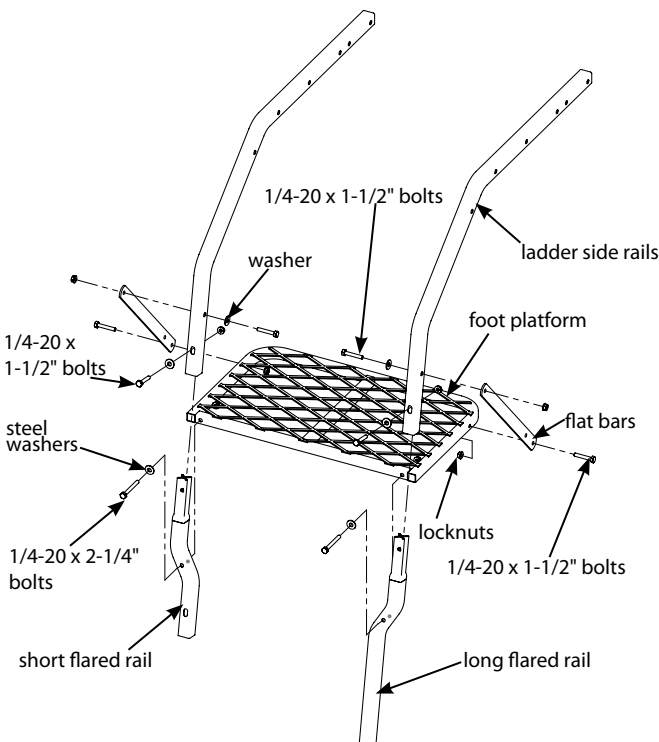

Figure 1
1. Attach the short flared rail (410031) and the long flared rail (410037) to the foot platform (410047) using (2) provided 1/4-20 x 2-1/4" bolts, locknuts and steel washers. **SEE FIGURE 1. DO NOT tighten all nut and bolt assemblies completely!**
NOTE: Mesh surface of foot platform should be on top. Make sure the short and long flared rails are orientated correctly per **FIGURE 1**.
2. Insert the two flared rails into the (2) ladder side rails (410030). Secure the ladder side rails to the flared rails using (2) provided 1/4-20 x 1-1/2" bolts, locknuts and steel washers. **SEE FIGURE 1.**
3. Attach the (2) foot platform flat bars (AL7) to the foot platform and the ladder side rails using (4) provided 1/4-20 x 1-1/2" bolts, locknuts and (2) steel washers. **SEE FIGURE 1.**